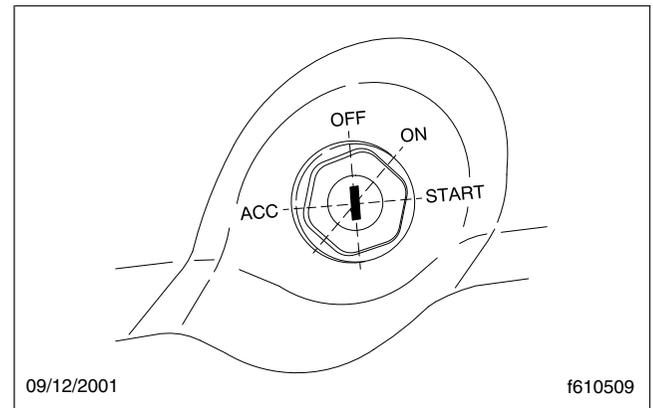

Fig. 18.2, Ignition Switch Positions
- Ensure that the transmission shift control is in Neutral (N), Park (P), or the Park Brake (PB) position.
- Without starting the engine, turn the ignition switch to the ON position, shown in Fig. 18.2. The electronic gauges on the instrumentation control unit (ICU) will complete a full sweep of their dials, the warning and indicator lights will illuminate, and the buzzer will sound for 3 seconds.